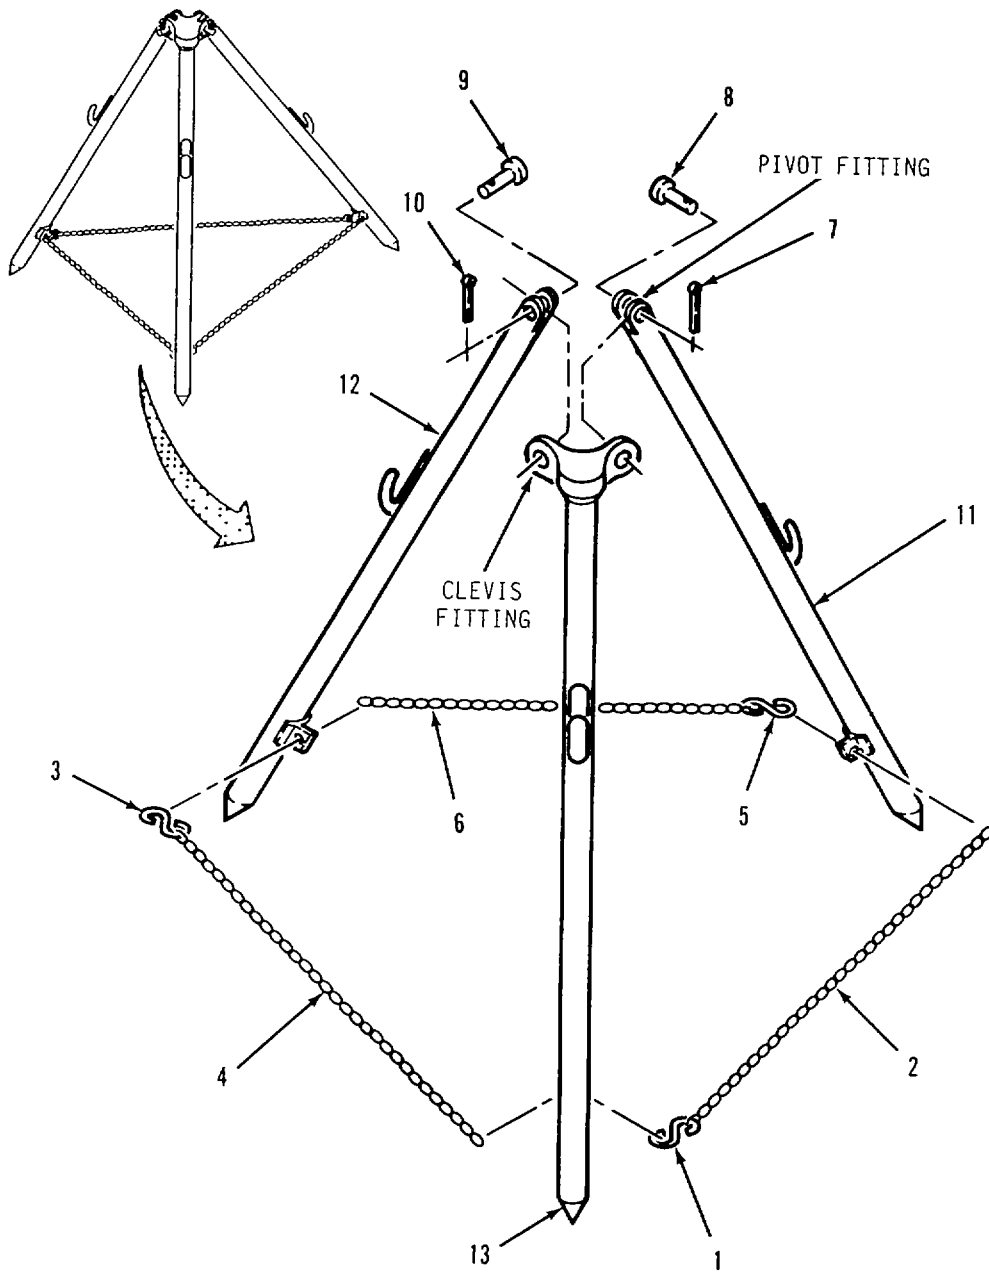

Figure 4-13. Nozzle Stand Repair.
- a. Disassembly. Refer to figure 4-13
- (1) Unbend and remove S-hooks (1, 3 and 5) and disconnect chains (2, 4 and 6)
- (2) Remove cotter pin (7) and straight pin (8), then remove leg (11) from leg (13)
- (3) Remove cotter pin (10) and straight pin (9), then remove leg (12) from leg (13)
- (1) Wash all components with clean water and detergent
- (2) Rinse components in clean water and dry with wiping rag
- c. Inspection. Refer to figure 4-13
- (1) Inspect legs (11,12 and 13) for cracks, broken clevis ends and bent or missing nozzle hangers
- (2) Inspect chains (2, 4 and 6) for broken links
- e. Assembly. Refer to figure 4-13
- (1) Position clevis fitting on leg (12) over pivot fitting on leg (13)
- (2) Install straight pin (9) through pivot fitting and clevis Install cotter pin (10) in straight pin
- (3) Aline clevis fitting on leg (13) with pivot fitting on leg (11)
- (4) Install straight pin (8) Install cotter pin (7) in straight pin.
- (5) Connect chains (2, 4, and 6) to legs (11, 12, and 13) with S-hooks (1, 3 and 5)